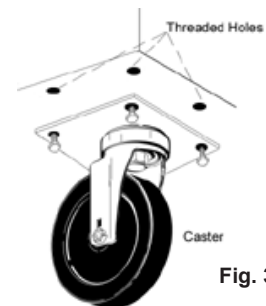

Fig. 3
For installing optional casters, these are "plate" type, and require the use of four (4) bolts to secure them firmly to the cabinet bottom at each corner (see figure 3). The caster bolts are tightened using a 1/2" socket wrench.